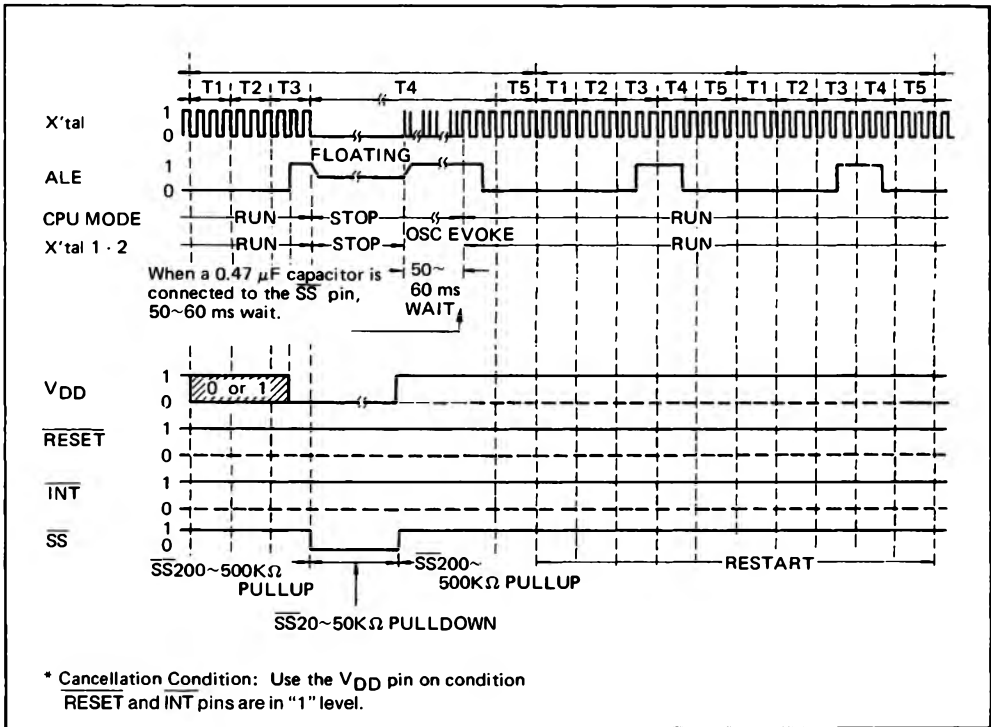

Fig. 4-7 Hardware Power-Down Mode Timing Chart
- The clock generator is activated and the CPU started up when a "1" level is applied to the  $V_{DD}$  pin while a "1" level is also applied to both the  $\overline{\text{RESET}}$  and  $\overline{\text{INT}}$  pins. In this case, execution is resumed from the stopped position. The timing chart is outlined in Fig. 4-7.